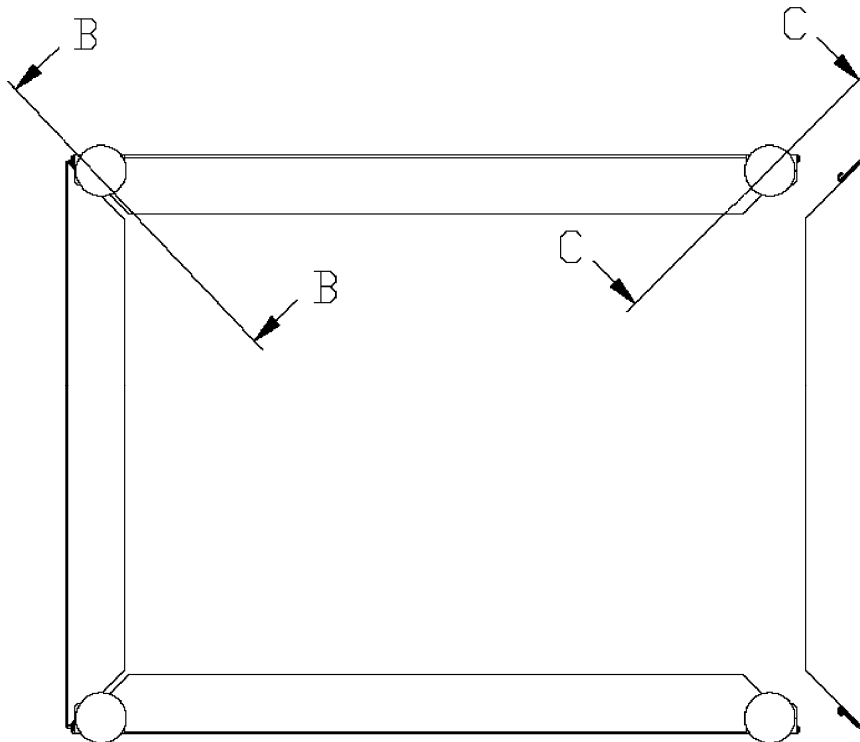
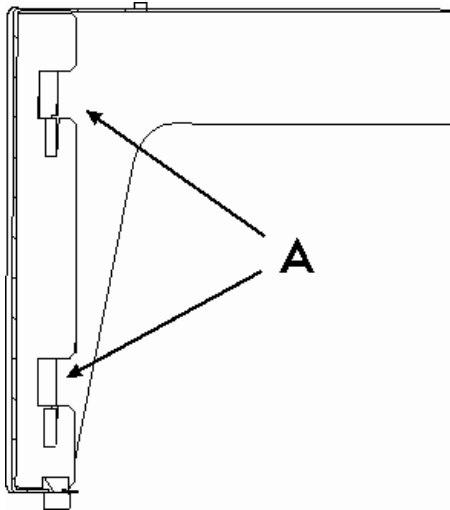
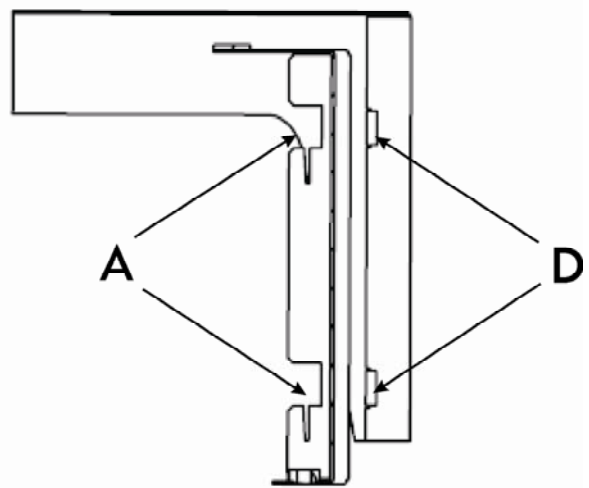

Figure 18: Side part of the mounting frame
Figure 19: Detail of sectional drawing B-B
Figure 20: Detail of sectional drawing C-C
- Connect the side parts of the mounting frame according Figure 18 and to the sectional view in Figure 19 and Figure 20.